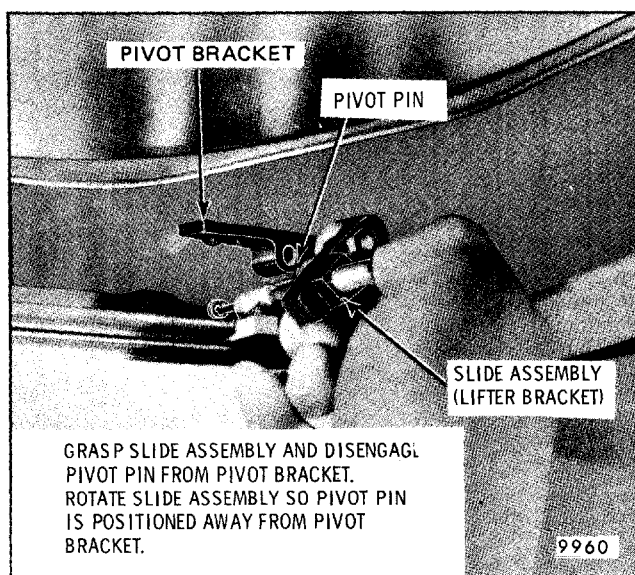

Fig. 8-112-Rear Slide Assembly Disengaged - E and K Styles
10. Grasp rear slide assemblies, pull inboard enough to disengage the pivot pin from the glass panel pivot bracket (Fig. 8-112) on E and K styles.